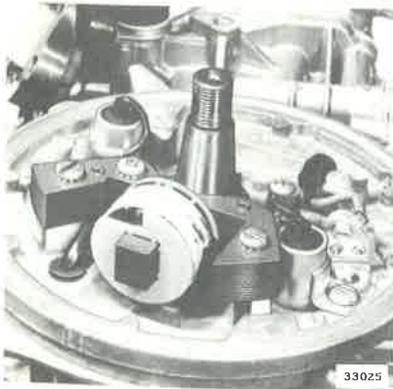

Figure 4-22. Coil Locating Bosses
a. Correct locating of the driver coil and lamination assembly is governed by machined mounting surfaces on the armature plate. Coil lamination heels should be flush with machined surfaces. See Figure 4-22.